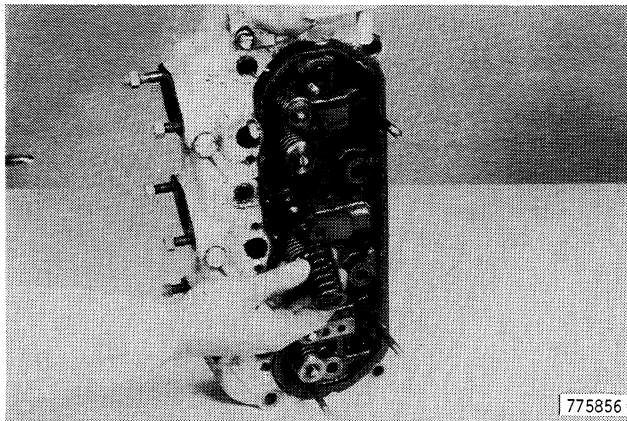

Figure 124
- 2. Install the valve spring on the valve stem, Figure 124. The springs color coded yellow are the exhaust valve springs.